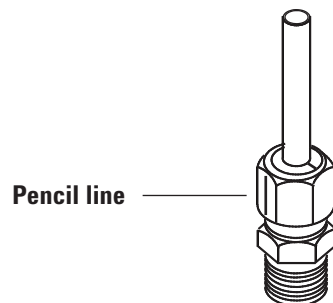

Figure 18. Marking the fitting
- 6 Mark the nut with a pencil line. See Figure 18.